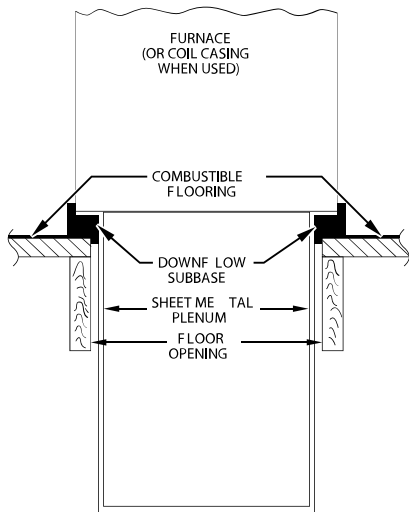
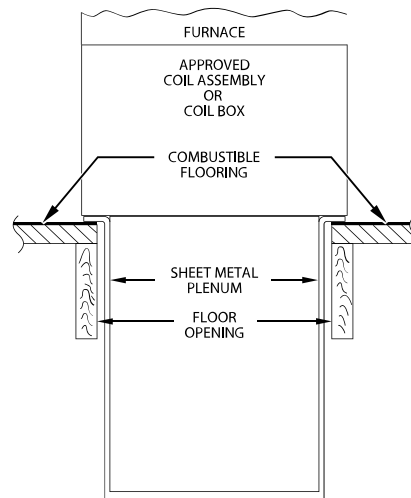

Fig. 12 – Furnace, Plenum, and Subbase Installed on a Combustible Floor
Fig. 13 – Furnace, Plenum, and Coil Assembly or Coil Box Installed on a Combustible Floor
- If downflow subbase is used, install as shown in Fig. 12. If Coil or Coil Casing, install as shown in Fig. 13.